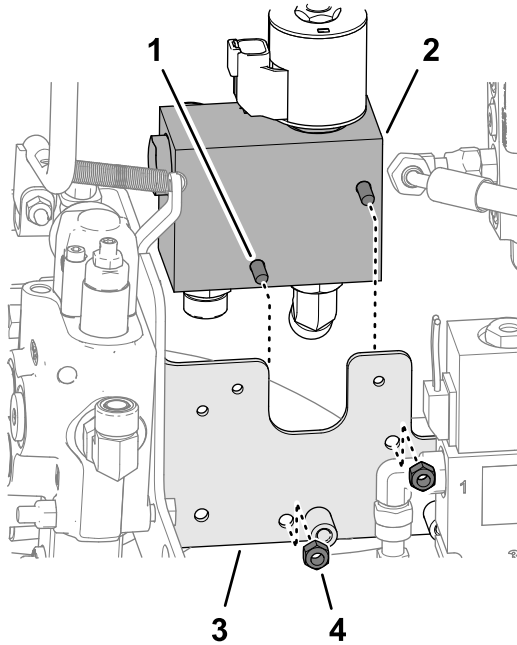

Figure 16
- Assemble the low-flow valve to the bracket (Figure 16) with the 2 bolts (1/4 x 2-1/2 inches) and 2 locknuts (1/4 inch).